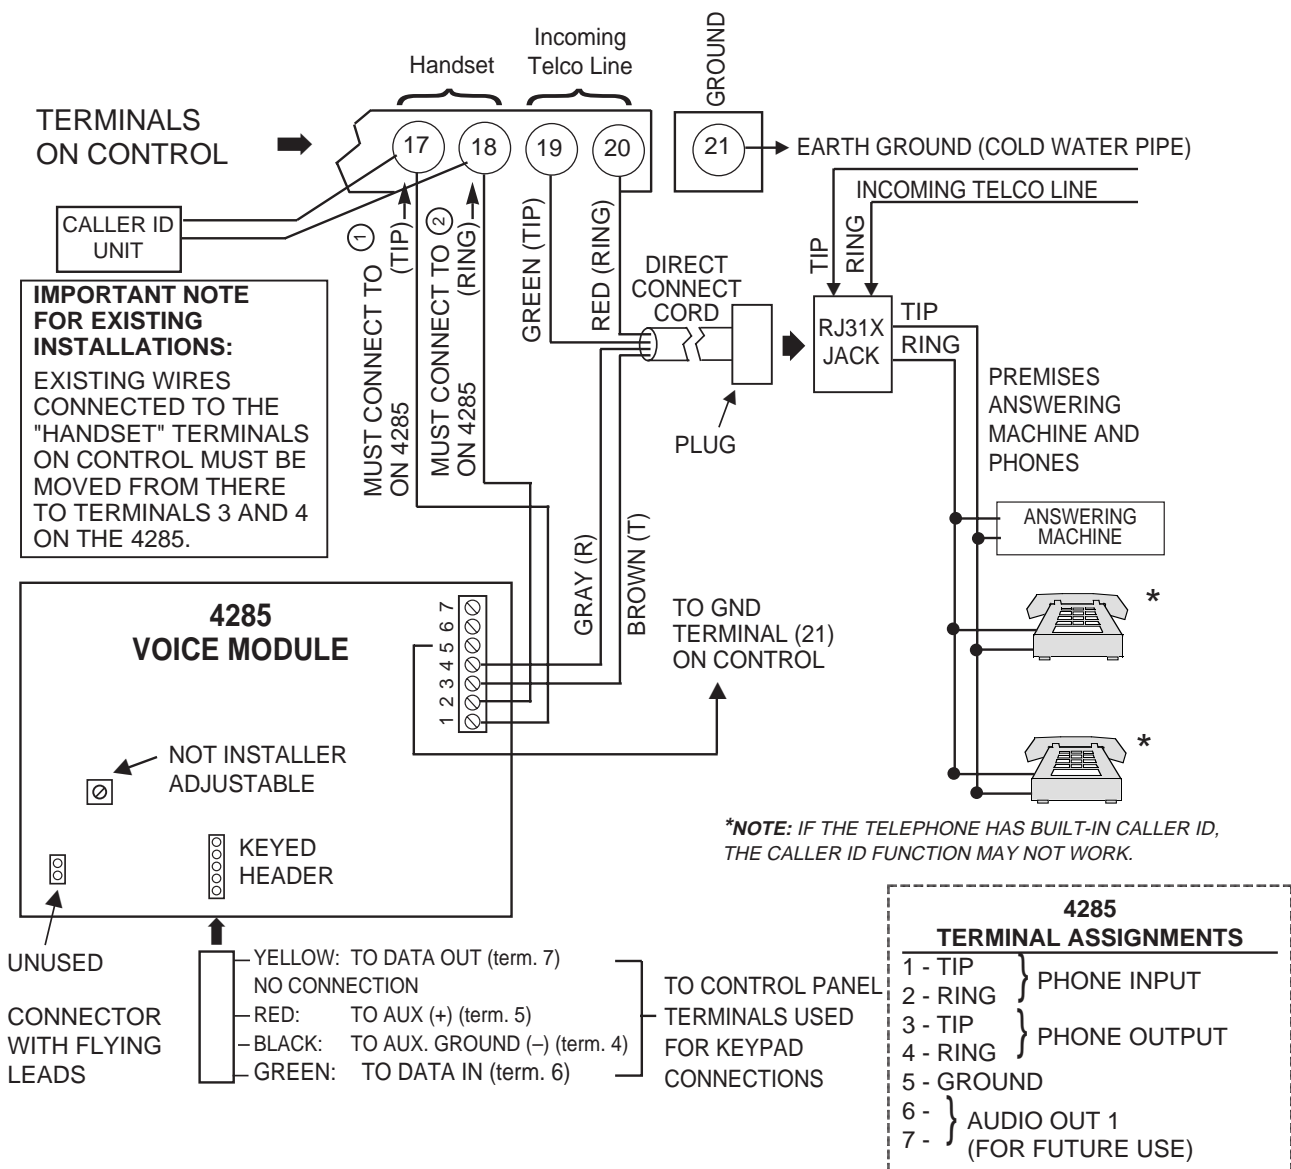

Figure 10. 4285 Phone module Wiring Connections
1. Make 12V (+) and (-) and data in and data out connections from the Phone module to the control, using the connector cable supplied with the Phone module (see Figure 10).